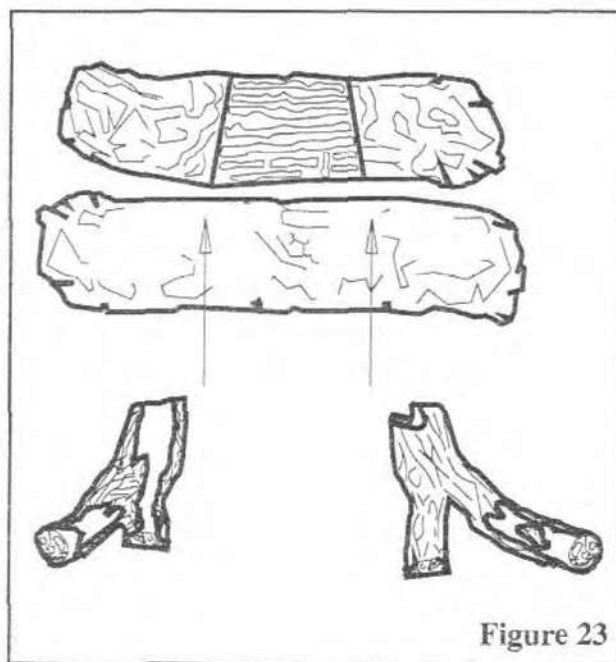

Figure 23
The Galaxy D36-DV comes complete with a 6 piece log set. Four (4) logs have been factory set and secured by wires and screws to the log support. The top center log piece is made out of ceramic fiber materials, which produces a realistic glowing effect. Ceramic fiber log is brittle and must be handled with care. The log support is positioned and screwed to the bottom of the fire box for proper flame and glow characteristics. The log support must be positioned as set by factory for proper operation of the fireplace. Indentations have been provided for the two top cross logs for support and placement of these logs. Refer to Figure 23. Placement has been set to provided the safest and most efficient use for your appliance.